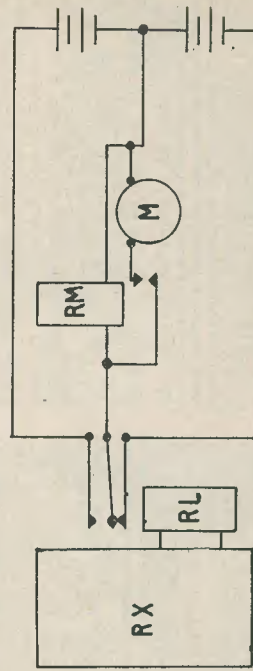

Fig. 5. Note that RM is too slow to operate at the pulse rate
In this case the best circuit for most purposes can be based on Fig. 5. Here the receiver relay contacts (RL) are connected to opposite poles of a battery. The centre tap is returned to the relay RL moving contact via the relay RM, which is too slow to operate at the pulse rate. When a Mark or a Space is sent RM
We have already noted that the only ideal control is proportional, this being particularly true for steering systems. It is, however, sometimes possible to relax the standards for other primary controls, such as speed control in a model car or sheet control in a yacht. In the latter case, especially, a progressive system is quite applicable and the circuit shown in Fig. 5 would do very well for hauling in and paying out the sheets, M being geared to the sheet winch instead of the rudder.
If a progressive system is to be employed for two primary controls in one model, it is evidently necessary to provide either four separate channels, or two channels each capable of carrying the information required by the circuit of Fig. 5; thus the complexity of the radio equipment begins to multiply!